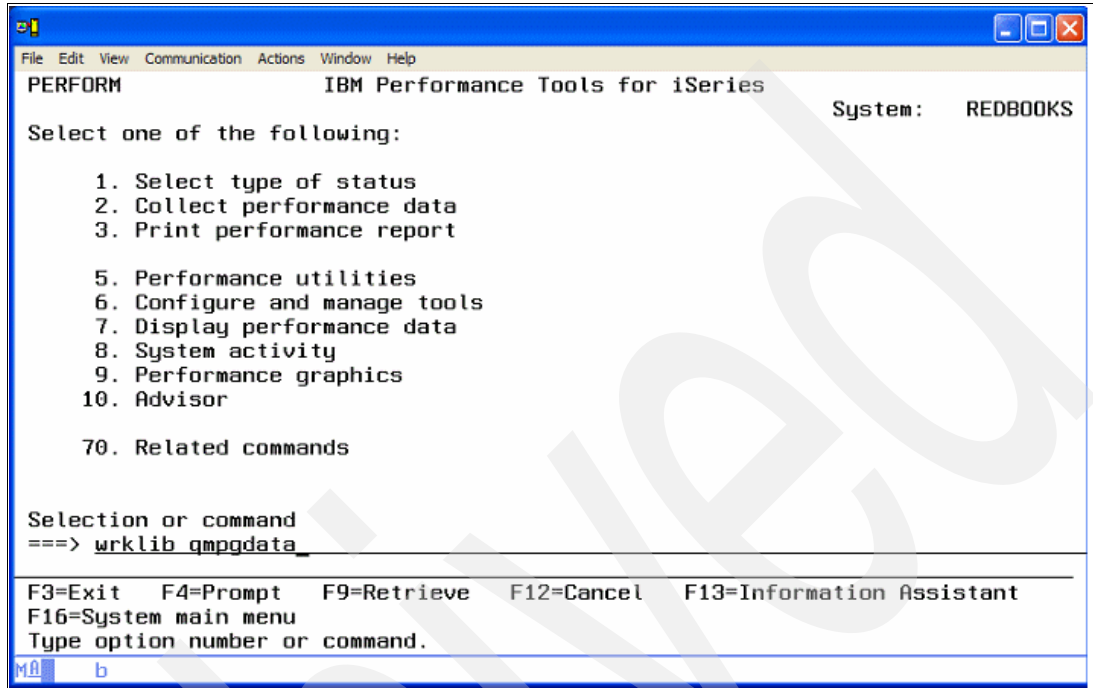

Figure A-11 WRKLIB command-line invocation
1. Locate the desired collection object. On the IBM Performance Tools for iSeries panel (Figure A-11), enter the WRKLIB CL command, and specify the collection library.